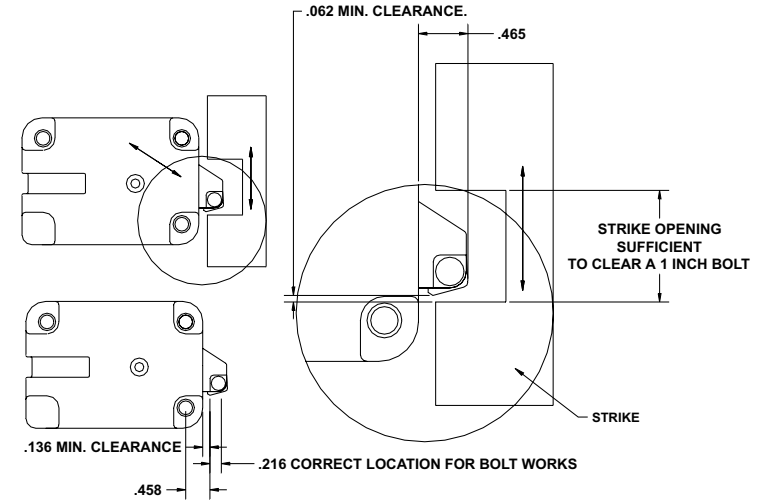

Figure 2 - Square Nose Slide Bolt Clearances and Positioning
2. Place the protective tube over the tube retainer on the lock case. (Figure 2)
4. When mounting the lock unit (i.e., integrating it in a boltwork), make sure that the lock bolt has clearance to freely move to its end positions and that the shifting force works only in the axial direction (direction of movement). Lateral forces should not be exerted on the lock. A minimum clearance of 1/16" (1.6mm) is required between the bolt roller/nose and the inside edge of the strike. Refer to Figures 2 and 3.
1. Ensure that the cable lays in the cable channel as you mount the lock case assembly to the inside of the container door using the three 1/4-20 (or M6-1) screws (Torque 25-30 lbs., 2.8-3.4 N-M), allowing 1/16" (1.6mm) clearance between the lock bolt and the container locking bar. (See Figure 2 for proper clearances and positioning when installing a square nose slide bolt. See Figure 3 for proper clearances, strike types and contact points when installing a roller slide bolt.)